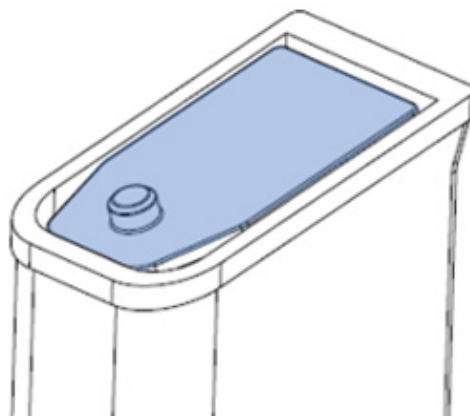

Figure 69: Magazine's insert positioning.
9. Place the red RISCpro insert in the position shown below. The red plate allows the shooter to distinguish between RISCpro- adapted magazines and standard magazines (Figure 69).